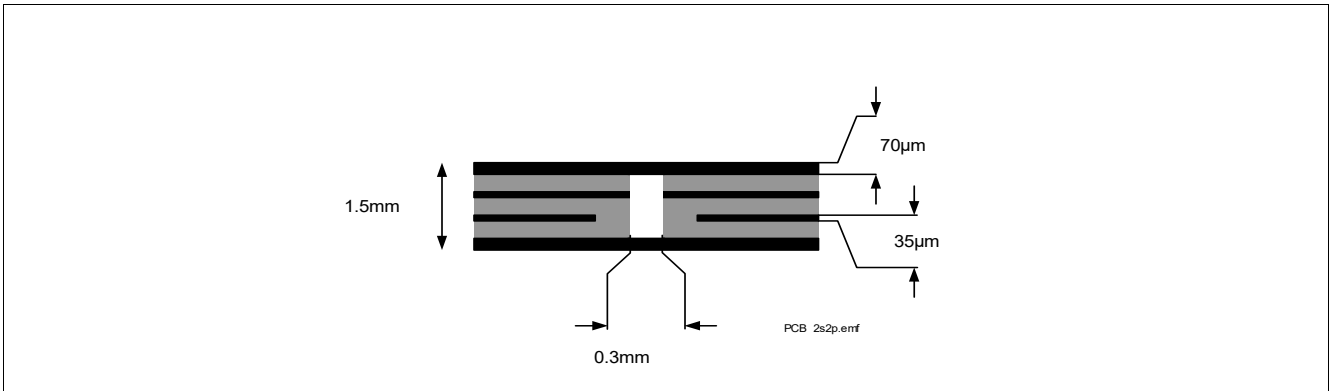

Figure 4 2s2p PCB Cross Section
2) Specified R_{thJA} value is according to JEDEC JESD51-2,-5,-7 at natural convection on FR4 2s2p board with 1 W power dissipation equally dissipated for both channels at $T_A=105^{\circ}\text{C}$; The product (chip + package) was simulated on a 76.4 x 114.3 x 1.5 mm board with 2 inner copper layers (2 x 70 μm Cu, 2 x 35 μm Cu). Where applicable, a thermal via array under the exposed pad contacts the first inner copper layer. Please refer to **Figure 4**.